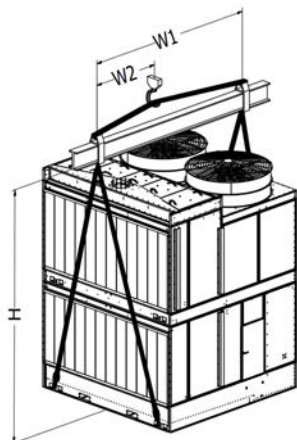
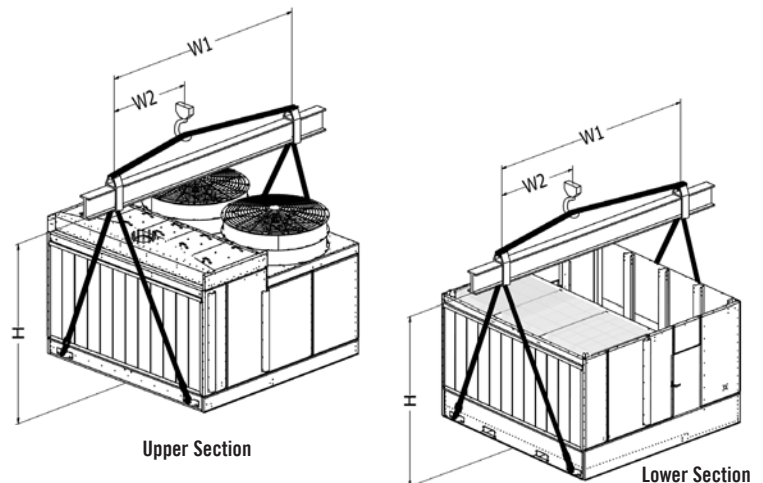

Figure 1. Single Piece Lift
Figure 2. Two-Section Cells
Refer to **Table 1** and **Figures 1 and 2** for the required minimum spreader bar and the recommended vertical dimension “H” from the lifting device at the base of each unit or section to the spreader bar. **Figure 1** shows the proper rigging of a Series 1500 that ships in one-section. **Figure 2** shows the proper rigging of a two-section unit.
All single cell 1500 Cooling Towers are designed to be lifted in one assembled piece as shown in **Figure 1**. A two piece lift is shown in **Figures 2** and **3**.
2. **Figures 2** and **3** show the proper rigging of the sections for units that ship in two sections. Position the lower section on the steel support and bolt in place.